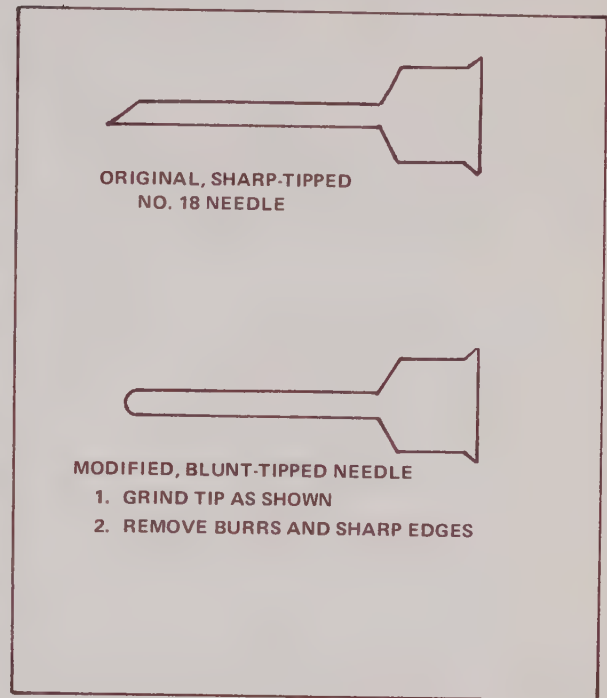

FIGURE 6-11. HYPODERMIC NEEDLE MODIFICATION
5. Modify No. 18 hypodermic needle per Figure 6-11.